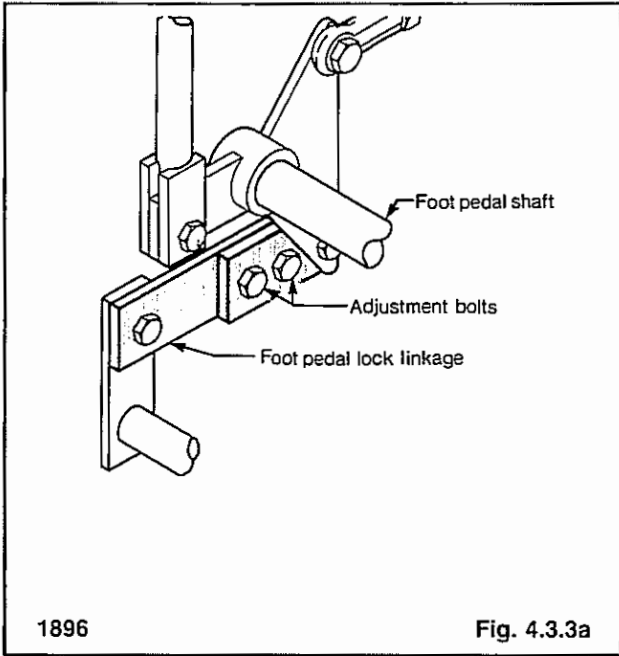

Fig. 4.3.3a
4. Loosen the foot pedal lock linkage adjustment nuts (fig. 4.3.3a).